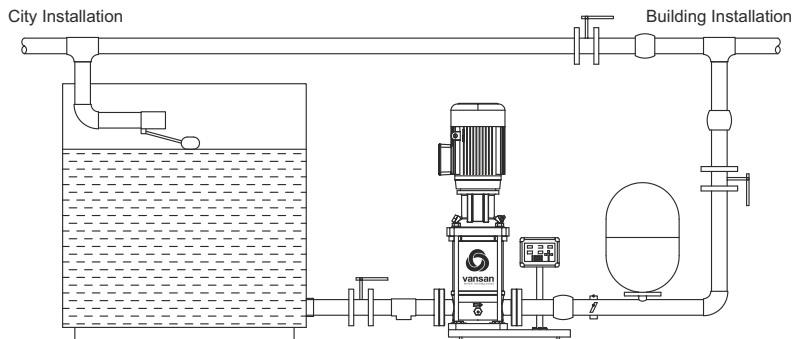

Figure 3
- Install the pressure booster collector to the installation with a rubber hose or a compensator and valve. (Figure 3)